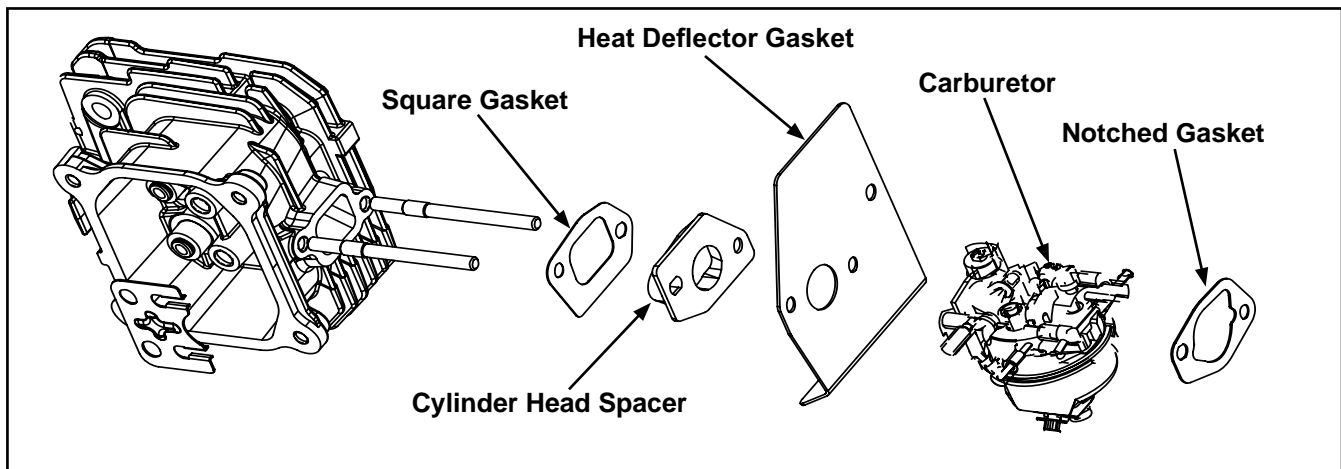

Figure 5-7. Carburetor Gasket Sequence (Exploded View).
5. Remove carburetor, noting gasket sequence. See Figure 5-7.